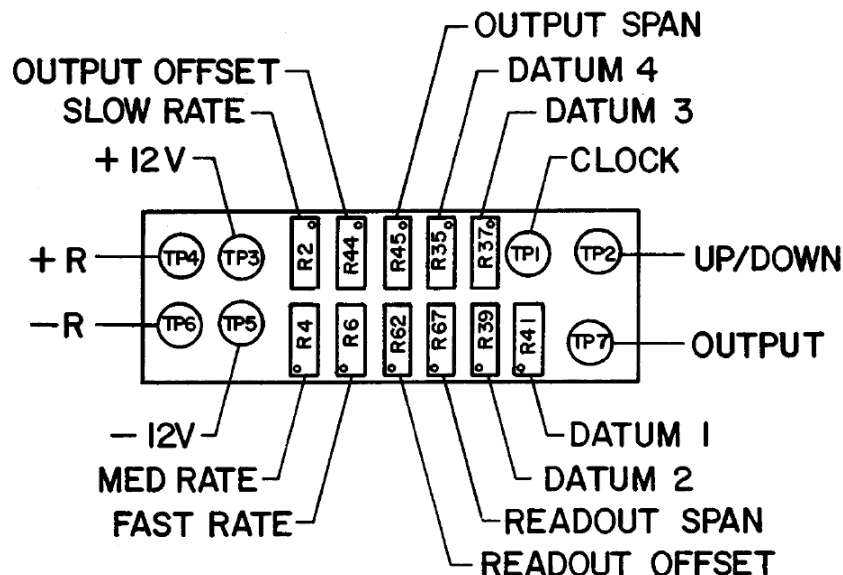

Figure 2-3. Test Point and Potentiometer Location Diagram
7. Check the following power supply voltages with terminal 12 as common. For the test point location, see Figure 2-3.
The test points and adjustments are located under the cover of the front of the unit. For each test point and adjustment, the function is given in the following list. For the location of the test points and adjustments see Figure 2-3.